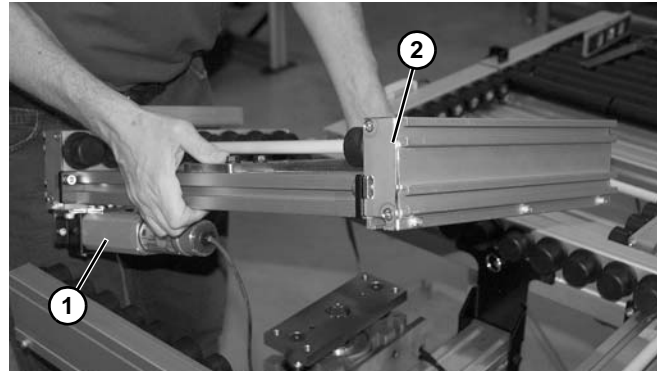

Figure 93
6. Disconnect motor (**Figure 93, item 1**) from power source.
7. Remove lift and transfer section (**Figure 93, item 2**) from conveyor.